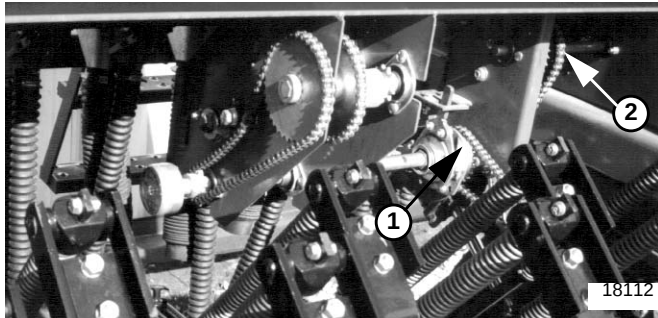

Figure 3-1
2. Arrange clutch-shaft (1) and upper-shaft (2) sprockets. See Figure 3-1. Loosen idler arm and remove chain from sprockets. If necessary, loosen set screws and move clutch-shaft sprocket to align correct sprockets. Reinstall chain over correct sprockets.